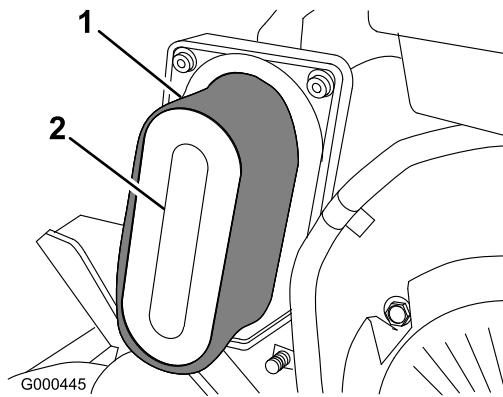

Figure 22
- If the foam element is dirty, remove it from the paper element (Figure 22) and clean thoroughly, as follows: